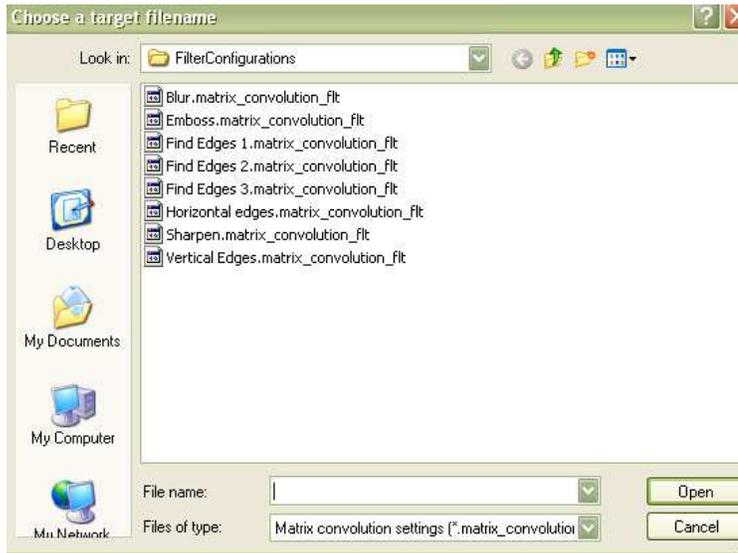

Figure 5-119 Load active filter settings from disk
- Load active filter settings from disk as shown in Figure 5-119.